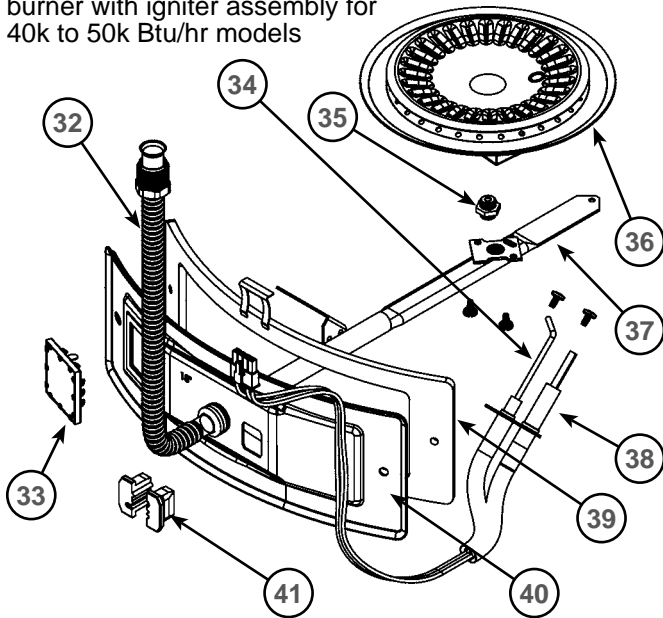
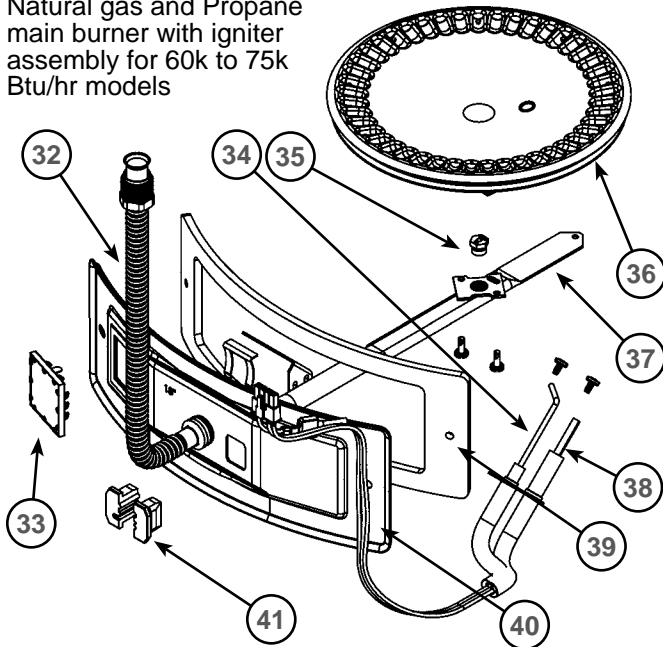

Figure 6
Figure 7
- 14 Manifold Door Assembly (behind outer door) (see Figure 6 & Figure 7)
- 32 Flexible Manifold Tube (see Figure 6 & Figure 7)
- 33 Viewport (see Figure 6 & Figure 7)
- 34 Flame Sensor Rod (see Figure 6 & Figure 7)
- 35 Gas Orifice (see Figure 6 & Figure 7)
- 36 Sheet Metal Burner (see Figure 6 & Figure 7)
- 37 Gas Manifold (see Figure 6 & Figure 7)
- 38 Hot-Surface Igniter (see Figure 6 & Figure 7)
- 39 Manifold Door Gasket (see Figure 6 & Figure 7)
- 40 Manifold Door (see Figure 6 & Figure 7)
- 41 Two Piece Grommet With Clip (see Figure 6 & Figure 7)